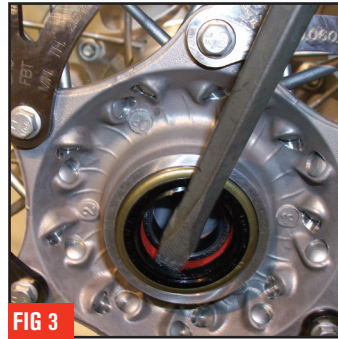

FIG 3
- 4 Use a long screwdriver or narrow pry bar and pry the seals out of each side of the wheel (Fig. 3).